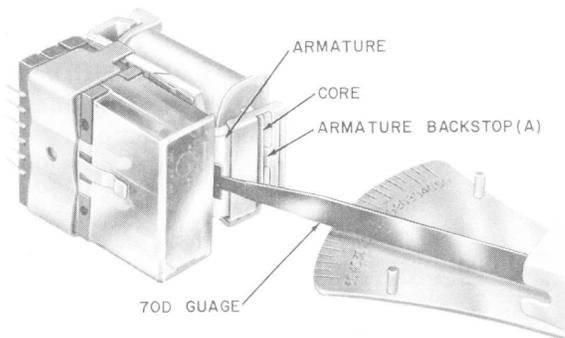
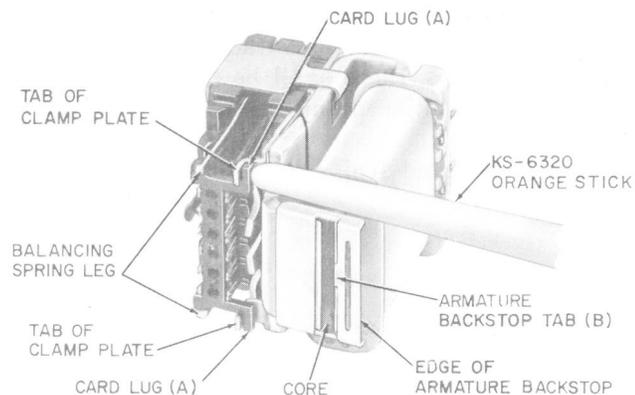

Fig. 4—Measuring Armature Back Tension
Fig. 5—Checking Balancing Spring
**2.05 Armature Back Tension** Fig. 4(A):
Use the 70D gauge, as shown in Fig. 4, applied at the center of the armature in front of the clamp plate shown in Fig. 5. Care shall be taken that the reed of the gauge does not touch the cover.
**2.06 Balancing Spring Tension** [Fig. 5(A) and (B)]: With the relay in the unoperated position, the combined tension of the balancing spring legs shall be sufficient to hold the card lugs against the outer tabs of the clamp plate and the armature backstop tab against the core.
To check this requirement, electrically operate and release the relay. Using the KS-6320 orange stick, apply pressure to the edge of the armature backstop toward the core (see Fig. 5) and then alternately to each card lug toward its associated clamp plate tab. The requirement is met if there is no observable movement of the armature backstop tab with respect to the core and no observable movement of either card lug with respect to its associated clamp plate tab.